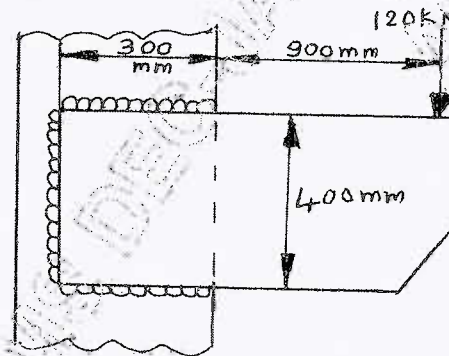

Fig.Q7(b)
b. Determine the size of weld for a bracket welded as shown in Fig.Q7(b). The allowable stress in the weld is 75 MPa.